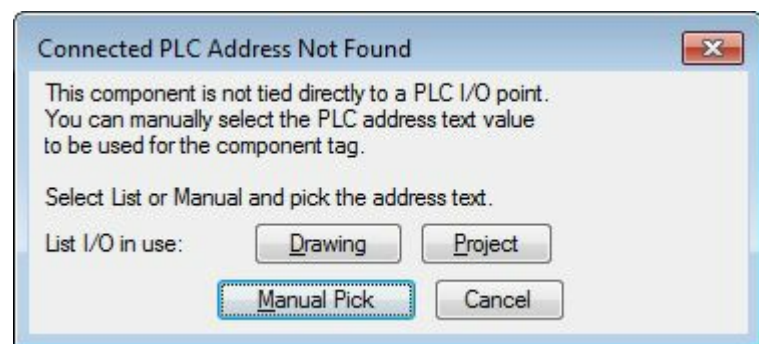

Figure-5. Connected PLC Address Not Found
- You can link your component with PLC by using the tag of PLC. To do so, click on the **Use PLC Address** button. If your components are not directly connected to PLC via wires as in our case then the **Connected PLC Address Not Found** dialog box will be displayed; refer to Figure-5.